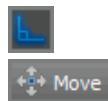

FIGURE 10.5 Centering the text within the rectangle by moving it upward
10. Click the Move tool on the Modify panel, select the Office text object, and press Enter. Click an arbitrary point on the drawing canvas, move the cursor upward from that point, type **2** (or **5** for metric), and press Enter. The text moves up so that the word OFFICE is centered within the rectangle (see Figure 10.5).